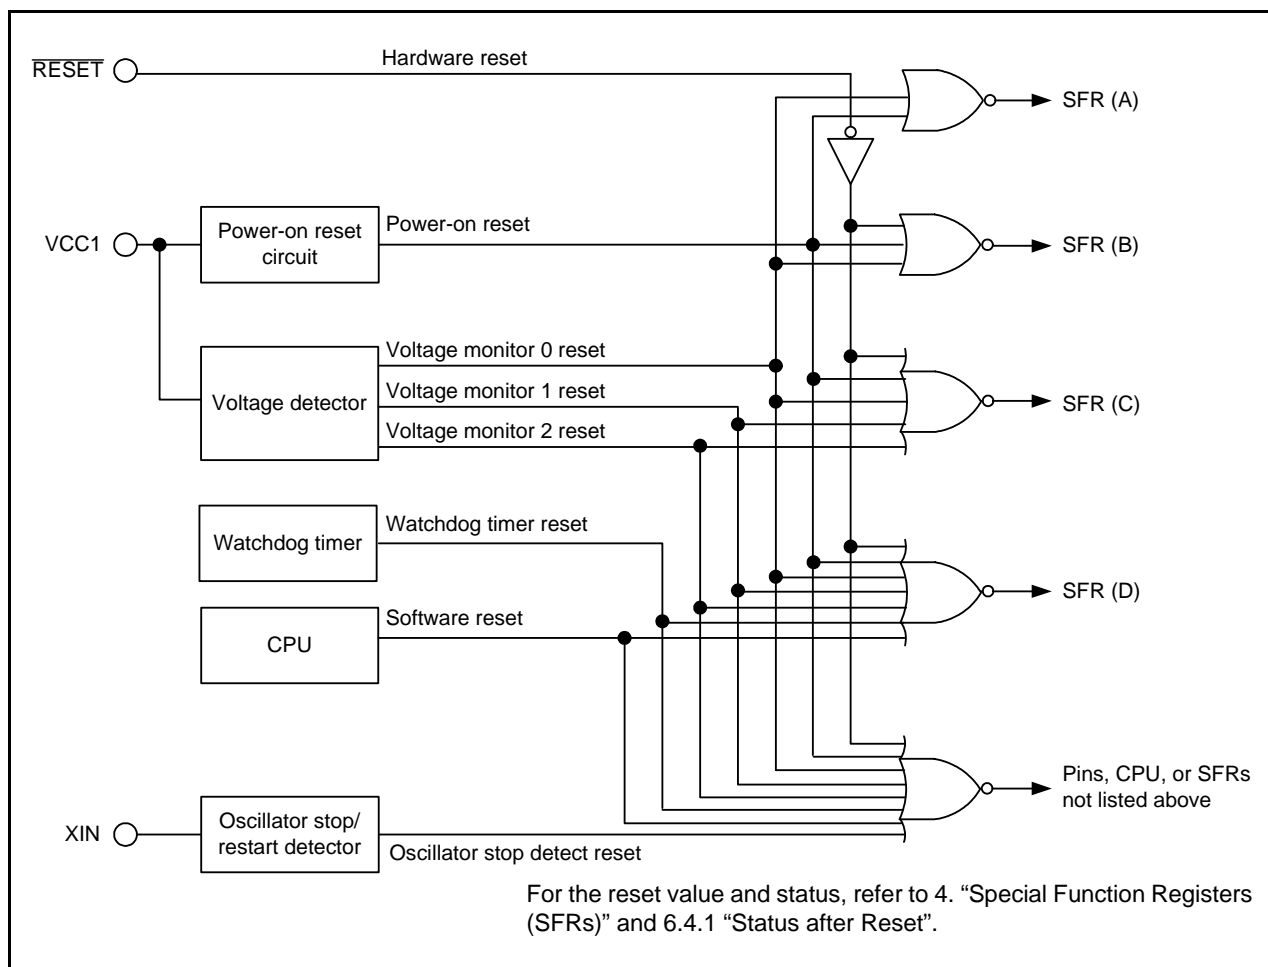

Figure 6.1 Reset Circuit Block Diagram
Table 6.1 lists the Types of Resets and Figure 6.1 shows the Reset Circuit Block Diagram. Symbols (A) to (D) in the table and figure is explained in Table 6.2. Table 6.3 lists the I/O Pins.